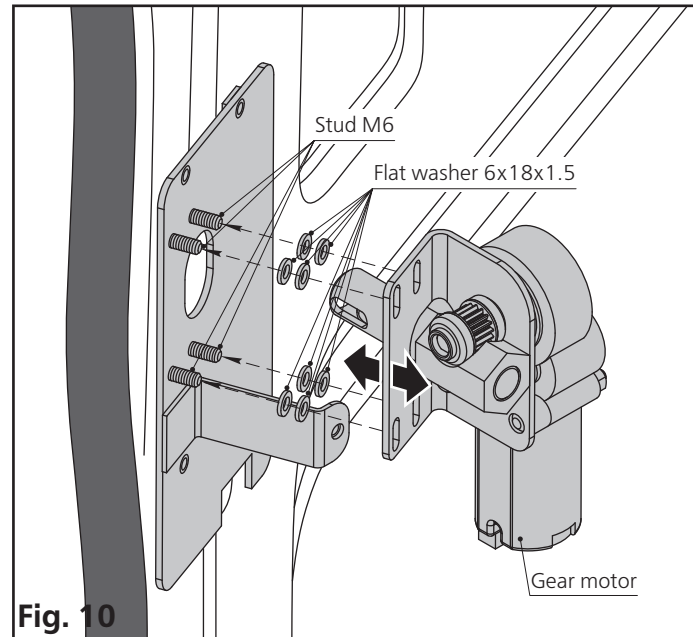
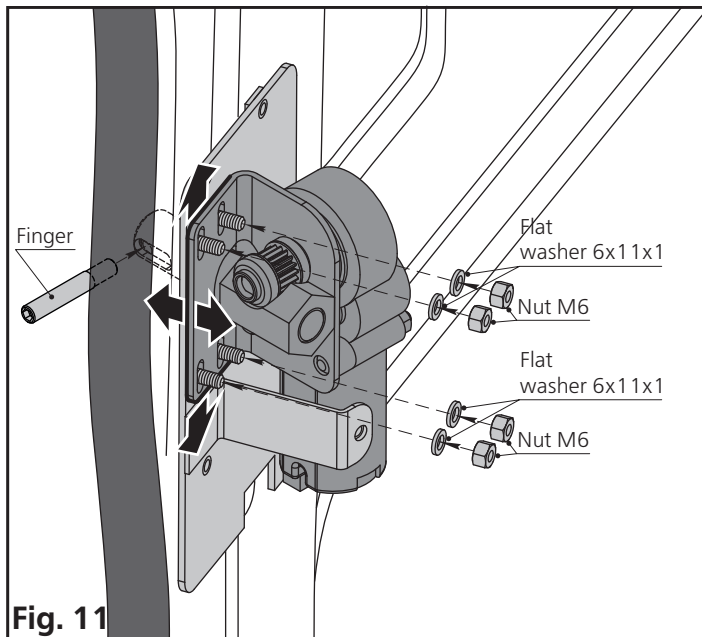

Fig. 10
Fig. 11
2. Put the gear motor on the studs M6 of the bracket (Fig. 10) and fasten the finger to the door closer through the oval hole on the body rack (Fig. 11).
3. Fasten the gear motor to the upper door closer bracket using 6x18 distance washers and adjusting holes so that the finger is closer to the left edge of the hole (Fig. 10, 11, 12).
If the sliding door is not sufficiently tightened into the doorway or, conversely, excessively retracted into the doorway, it is necessary to adjust the position of the upper door closers (fig. 11, page 14) and lower (fig. 22, page 18)